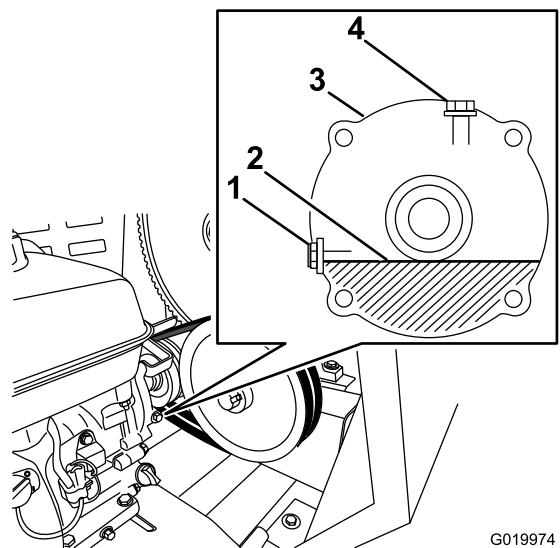

Figure 58
5. Locate the reduction case between the engine and the engine pulley (Figure 58).
7. Remove the oil-level-check bolt and washer from the oil-level port (Figure 58).
- A. Remove the filler bolt and washer from the filler port on the top of the reduction case (Figure 58).
- C. Install the filler bolt and the washer to the filler port of the reduction case, and tighten the filler bolt (Figure 58).
8. When the oil is level is flush with the threads at the bottom of the oil-level port, install the oil-level-check bolt and washer to the port, and tighten the bolt (Figure 58).
11. Slowly pour the specified oil into the fill port until the oil level is level with the threads at the bottom of the oil-level port (Figure 58).